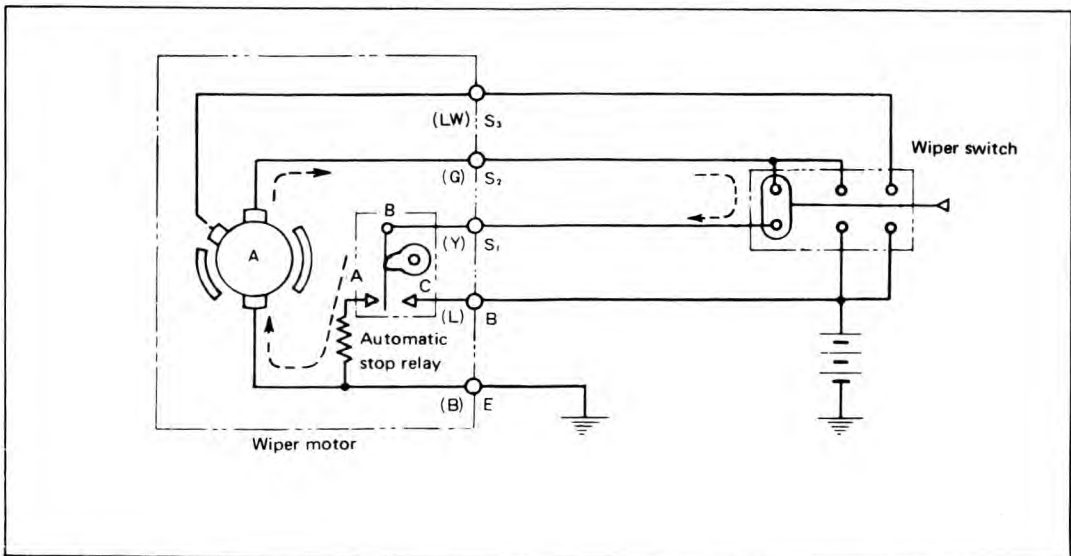

Fig. 12-15 Wiper switch when stopped
- 2 : When neither contact point (A) nor (C) is connected with contact point (B) in the relay, as shown in Fig. 12-15, no current flows to the motor and operation continues through inertia.